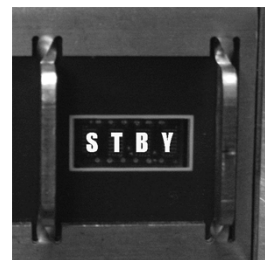

Figure 13
- 2 **After Toasting:** After toasting is complete, the Done Alarm will sound for 7 seconds. If the platen is left closed, the Toaster Grill will automatically enter the Standby Mode and the display will read "STBY". Open the Toaster Grill to reactivate it from Standby Mode. (See **Figure 13**.)